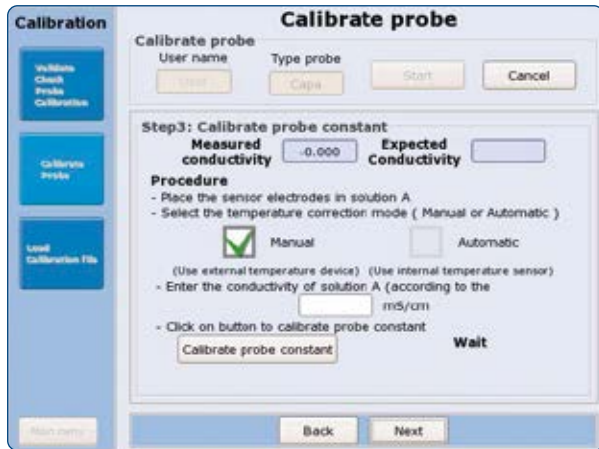

Figure 55: Calibration of the Sensor constant.
10. Press Calibrate sensor constant to start the Calibration (Figure 55). The successful Calibration is indicated. If this procedure fails it is recommended to contact the local representative.